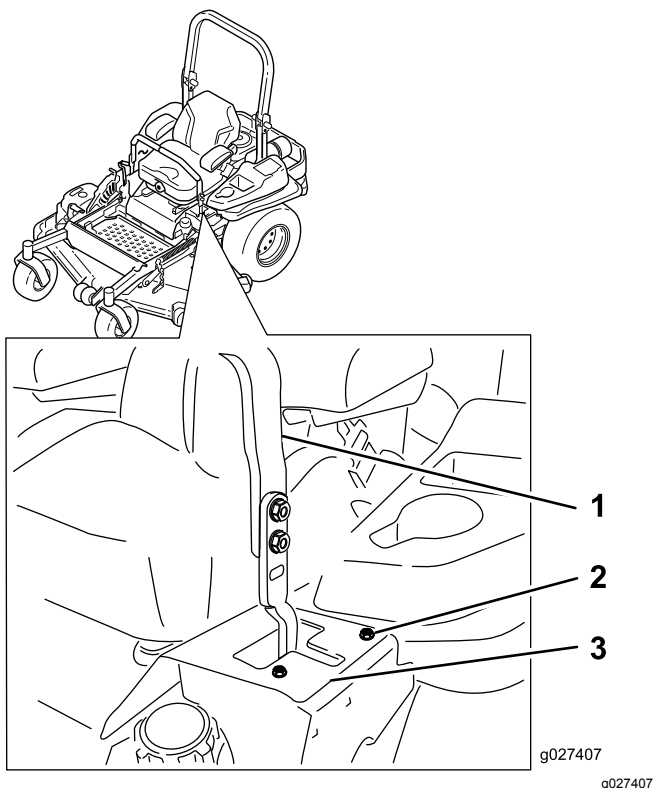

Figure 63
6. If it tracks to the right, loosen the bolts and adjust the left stop plate rearward on the left T-slot until the machine tracks are straight (Figure 63).
7. If it tracks to the left, loosen the bolts and adjust the right stop plate rearward on the right T-slot until the machine tracks are straight (Figure 63).
8. Tighten the stop plate (Figure 63).